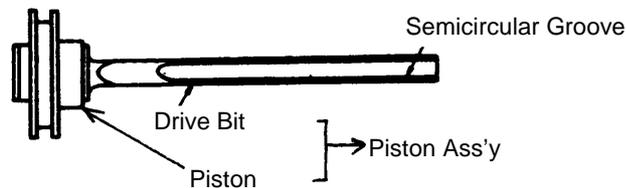

Fig. 10 Semi-circle groove of piston ass'y
- Ensure that the Piston Ass'y (13) is positioned so its semicircular groove faces toward the Magazine (81) (see Fig. 10 below).
- As Safety Plunger (B) (43), may drop out during disassembly, ensure it is properly assembled.
- Ensure that the air vent on Packing (A) (21) is properly aligned with the air vent on the Tail Cover (36).
- Assembly can be more easily accomplished if the two M5 x 12 Hexagon Socket Hd. Bolts (57) which connect